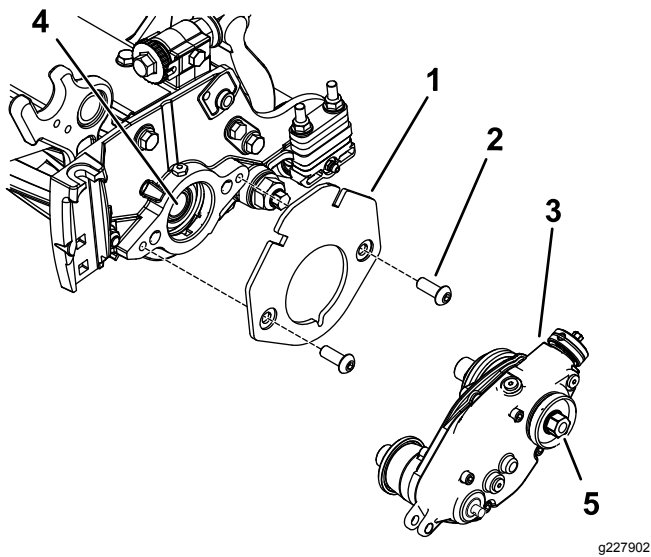

Figure 7
2. Secure the weight bracket to the reel using 2 hex-socket, button-head bolts (3/8 x 3/4 inch) as shown in Figure 7.
3. Apply medium-strength thread-locking compound (such as Blue Loctite® 243) to the threads of the internal reel shaft (Figure 7).
4. Attach the groomer drive box to the reel shaft (Figure 7) using the hex-head on the groomer drive box.